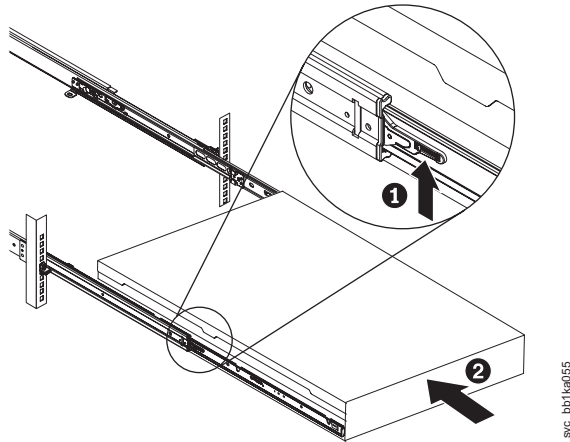

Figure 88. Raising the SAN Volume Controller 2145-CF8 locking levers of the slide rails of the rack
7. If you pulled out the node to the fully-extended position on the rack, lift the locking levers (**1** in Figure 88 on page 87) on the slide rails and push the server **2** all the way into the rack until it clicks into place.